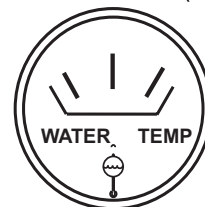

Figure 34. Coolant Temperature Gauge
14. The coolant temperature gauge (Figure 34) will indicate the coolant temperature. Under normal operating conditions the coolant temperature should be between 165 and 215 degrees fahrenheit (Green Zone).